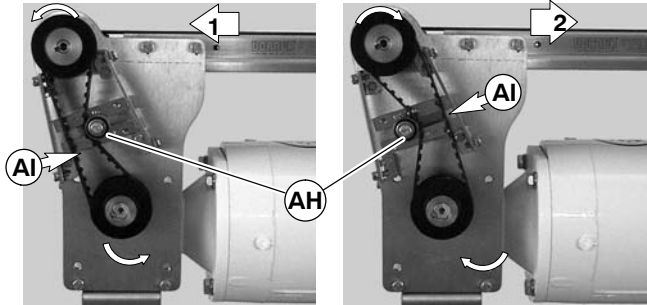

Figure 27
5. Depending on conveyor belt travel (1 or 2 of Figure 27), locate timing belt tensioner (AH) as shown. Tension timing belt to obtain 1/8" (3 mm) deflection for 1 lb (4.3 N) of force at timing belt mid-point (AI). Tighten tensioner to 38 ft-lb (51 Nm).